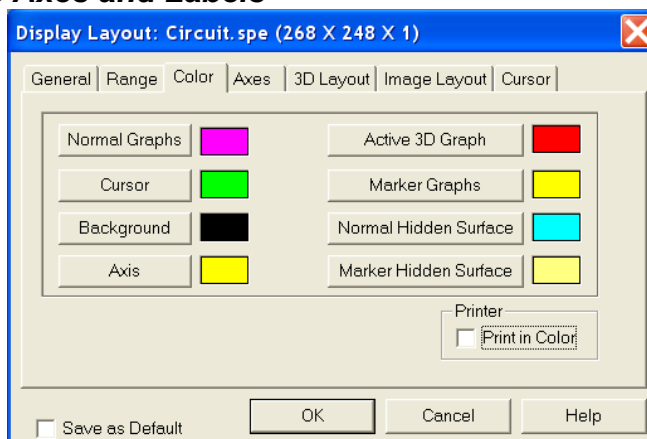

Figure 104. Display Layout/Color tab
2. Click on **Axis**. The color palette will open as shown in Figure 104.